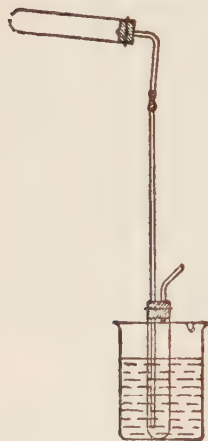

FIG. 32.
a. **Wood.** Take half of a hard glass test-tube full of sawdust and wood chips. Arrange the apparatus as in Fig. 32. The test-tube is inclined slightly downwards towards the mouth.